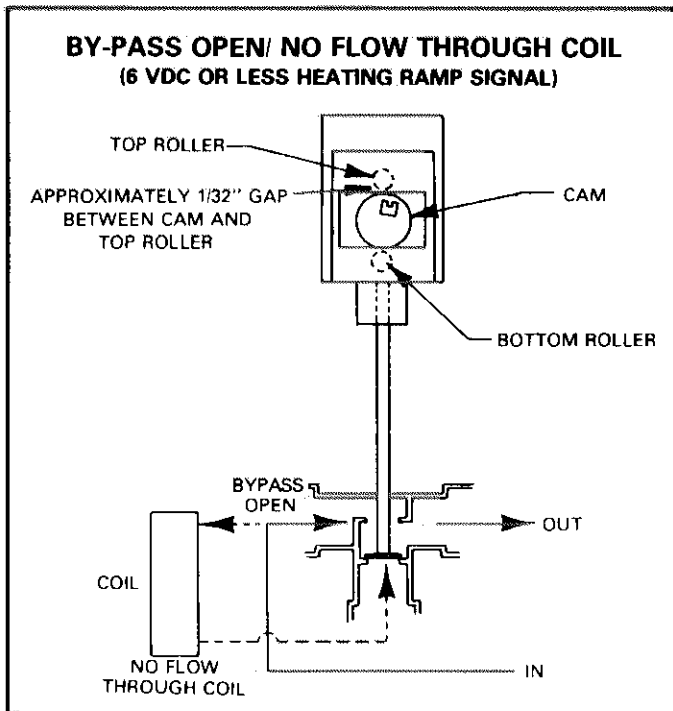

FIGURE 24
1 - The logic panel modulates the motor in response to the heating ramp signal. The range is 6 to 9 VDC. Figure 24
- 2 - The motor includes a spring return feature. On a loss of power the motor opens the valve to coil to allow water flow, thus preventing freezing. The motor and valve are positioned as shown in Figure 24.
- 2 - Remove jumper previously installed. Valve motor shaft should rotate counter-clockwise, lowering valve stem. Refer to Figure 24.